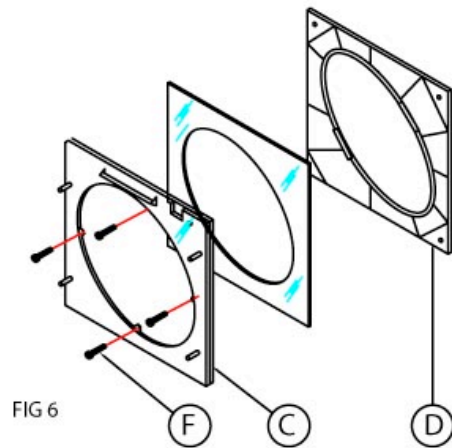

FIG 6
- 4.6 Place the inner clamp plate (C) on the inside of the glass and screw it to the outer clamp plate (D) using four 60 mm bolts supplied (F). (FIG 6)